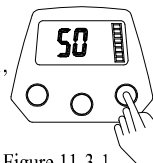

Figure 11-3-1
3. Press the "MENU" again for 2 seconds and the interface appear as shown in Figure 11-3-1, where the number "50" is flashing.